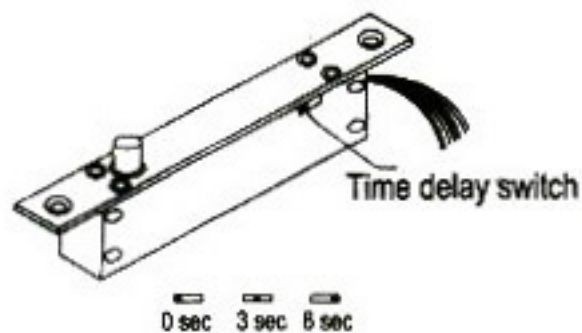

Figure 4
2.5 Time delay adjustment. It is located in the middle of lock (figure 4). it is 0,3,6sec.